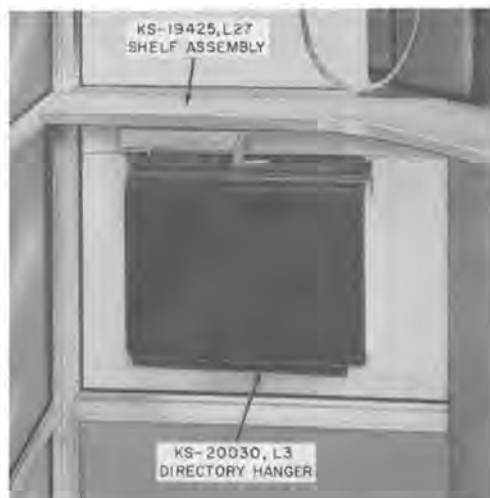

Fig. 10—KS-19425, List 27 Shelf Assembly with KS-20030, List 3 Directory Hanger
2.19 Refer to Fig. 10 through 12.
- 3.20** There are two shelf assemblies, a directory rack, a directory hanger and a directory shelf available for the booth. Install, when required, as follows (see Fig. 10 through 12):
- (a) **KS-19425, List 27 Shelf Assembly and KS-20030, List 3 Directory Hanger (Fig. 10).**